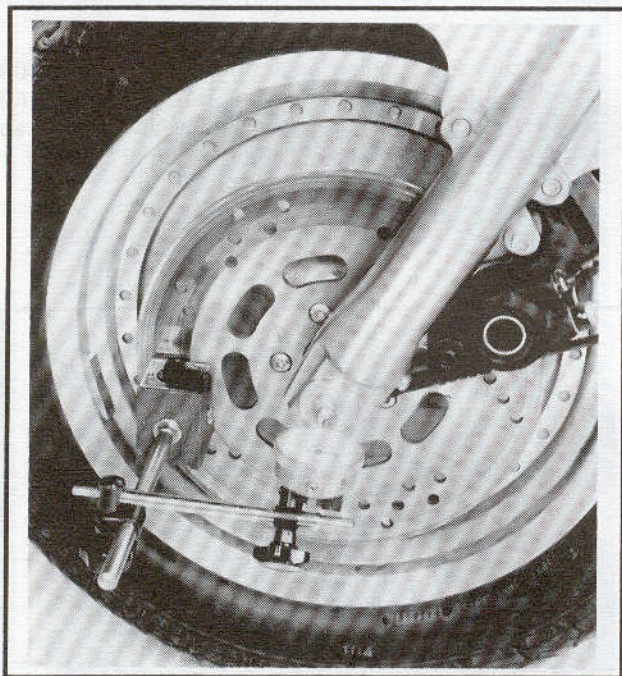

Figure 2-4. Check Front Wheel End Play
See Figure 2-4. Set wheel bearing end play to 0.004 - 0.018 in. Incorrect end play can adversely affect handling, creating a potential hazard.
See Figure 2-4. Mount a magnetic base dial indicator to the brake disc with contact point on end of axle. If end play does not fall within this range, substitute a slightly longer or shorter spacer (5) as necessary.
4. See Figure 2-4. Mount a magnetic base dial indicator to the brake disc with contact point on end of axle. Move wheel back and forth on axle to check end play.